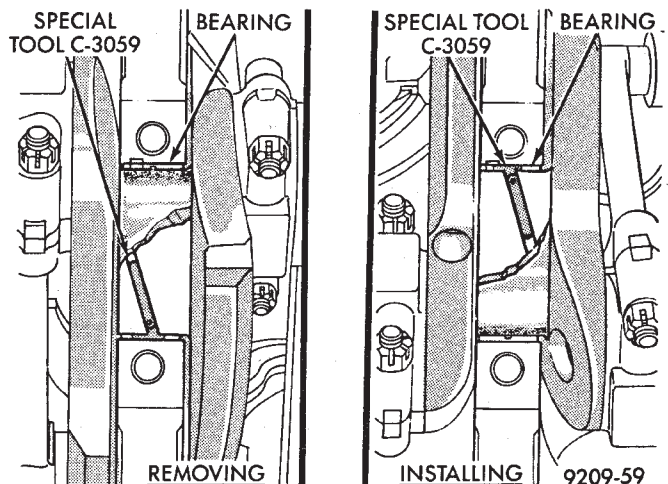

Fig. 17 Upper Main Bearing Removal and Installation with Tool C-3059
- (4) Remove upper half of bearing by inserting Crankshaft Main Bearing Remover/Installer Tool C-3059 into the oil hole of crankshaft (Fig. 17).
- (5) Slowly rotate crankshaft clockwise, forcing out upper half of bearing shell.
- (1) Start bearing in place, and insert Crankshaft Main Bearing Remover/Installer Tool C-3059 into oil hole of crankshaft (Fig. 17).
- (2) Slowly rotate crankshaft counterclockwise sliding the bearing into position. Remove Tool C-3059.
- (3) Install the bearing caps. Clean and oil the bolts. Tighten the capbolts to 115 N•m (85 ft. lbs.) torque.
- (4) Install the oil pump.
- (5) Install the oil pan.